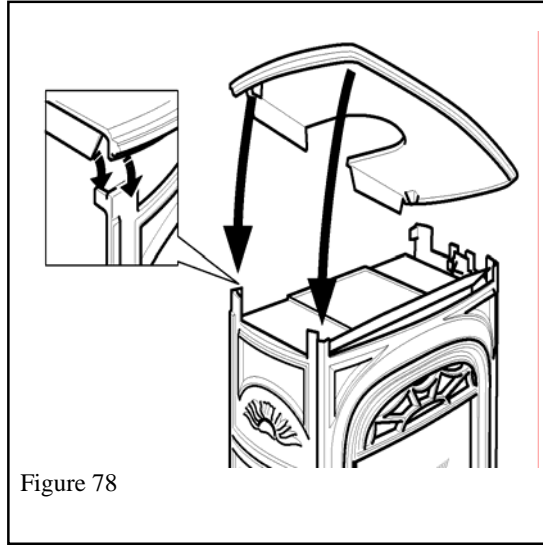

Figure 78
2. Fit the top casting making sure that the corners locate as shown in figure 78.